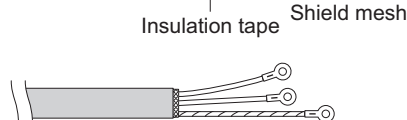

Fig. 1-11
- (3) Remove coat of signal wire. (Fig. 1-11)